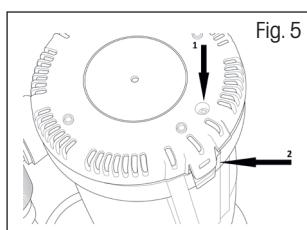

Fig. 5
- ❖ Unscrew the cover screw (1) and then release the cover lock (2) by pulling it away from the pump (Fig. 5). After fitting the new cover, secure it again with the screw.